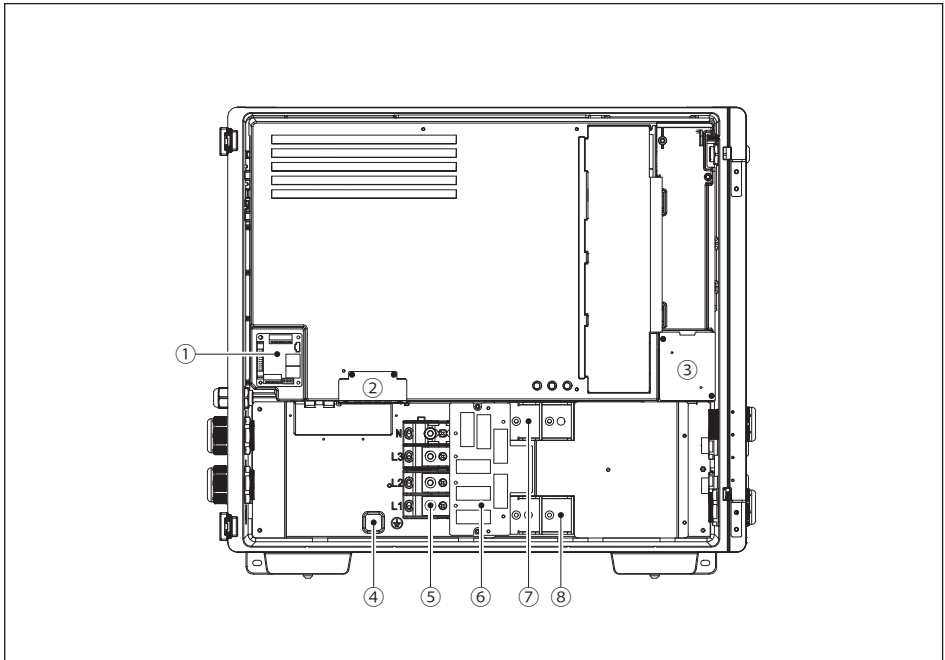

Figure 2-4: layout
In the following pages, **Figure 2-4** illustrate the general layout of the chassis and wiring area. The wiring area includes terminals for connection of the output (AC) wiring, surge protection devices (SPD).